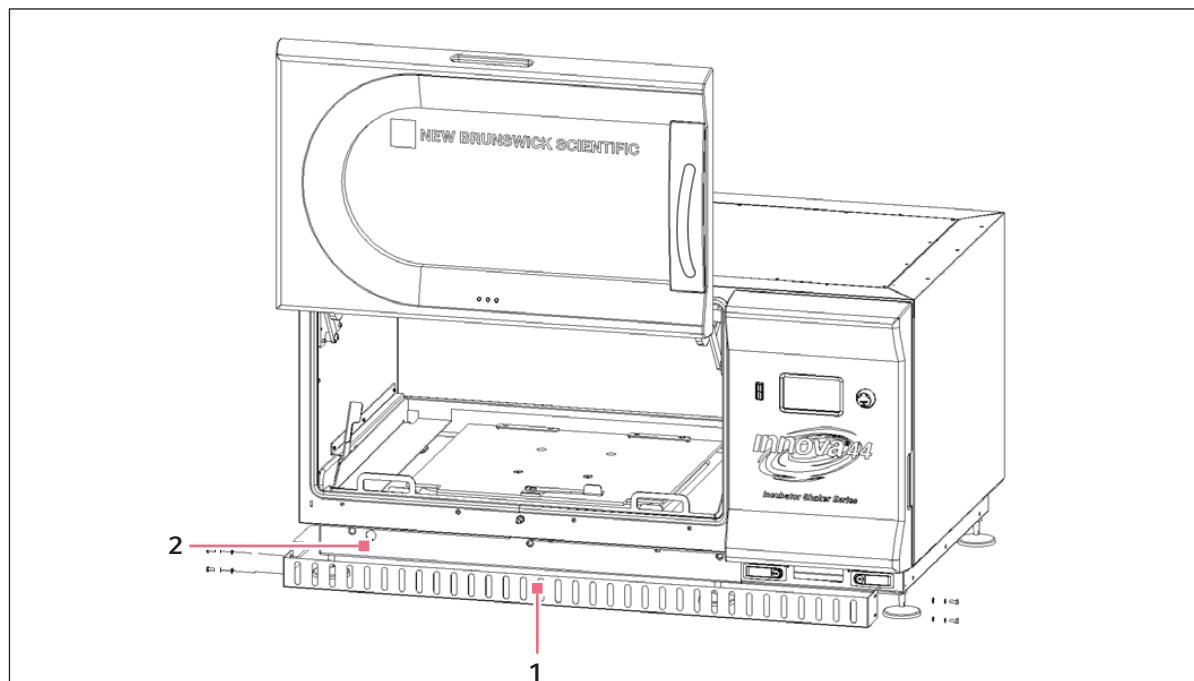

Fig. 8-6: Front grille
1. Temporarily remove the 4 thumbscrews that secure the front grille in place (Fig. 8-6 on p. 46).
1. Temporarily remove the four thumbscrews that secure the front grille (see Fig. 8-6 on p. 46).